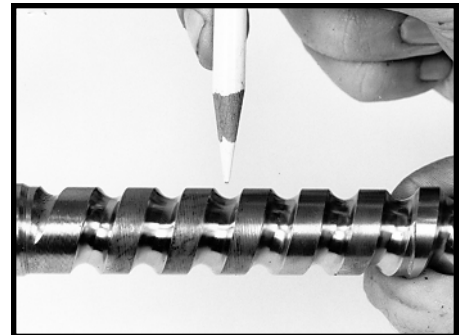
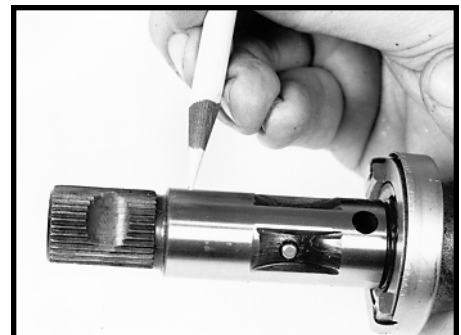

Figure 86
Figure 87
3. Inspect the worm shaft/input shaft assembly (17) ball track grooves for brinelling or spalling. SEE FIGURE 86. If either condition exists, you must replace all of the following parts: the worm shaft/input shaft assembly (17), the rack piston (31), the valve sleeve (15), the set of 27 balls (42). Visually inspect the upper shaft seal area near the input shaft serrations for nicks, and run your fingernail edge across the sealing surface to detect steps. SEE FIGURE 87. Visually inspect the sleeve contact area of the worm shaft/input shaft for discoloration from excess heat. If either of these conditions exist you must replace the worm shaft/input shaft assembly (17) and valve sleeve (15) as a matched set and the set of 27 balls (42).